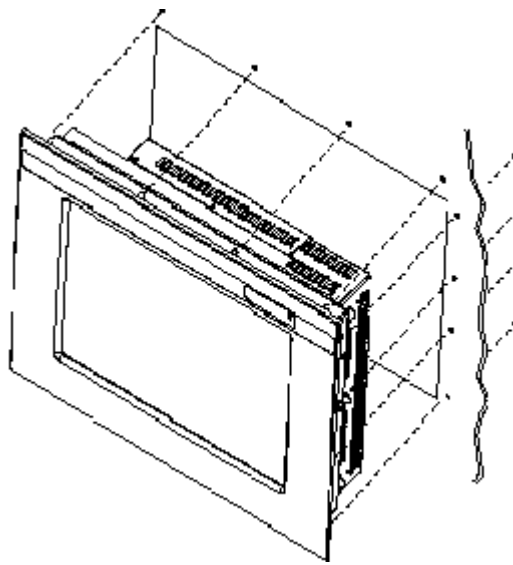

Figure 2: Panel Mount Drawing
1. Cut and drill the panel (refer to Figure 2; Panel Mount Drawing). Measurements are in inches. A template of the hole pattern has been supplied with your monitor to assist in making the mounting holes accurately. Also, there is an AutoCad .dxf file included on the provided CD. This computer file can be used in a design drawing or forwarded to your panel fabricator for the proper mounting